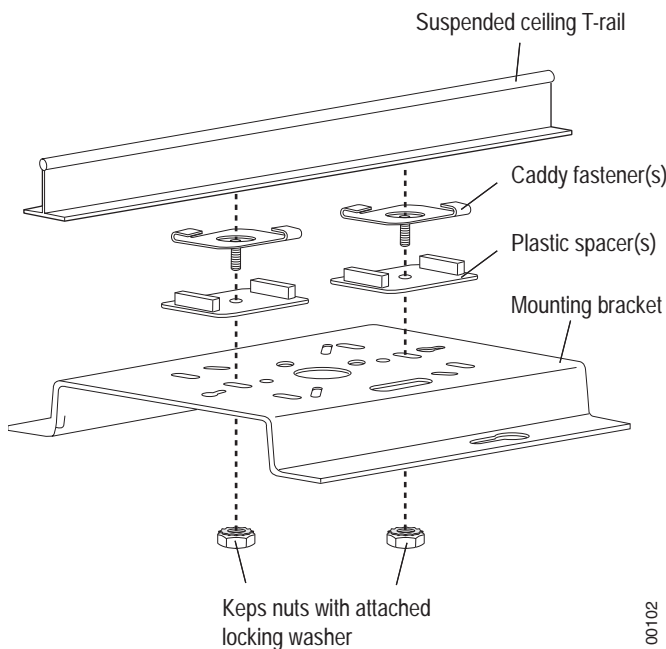

Figure 26: Mounting the AP200 to a Suspended Ceiling Rail
The optional suspended ceiling mounting kit allows the AP200 mounting bracket to attach to suspended ceiling T-rails (see Figure 26).
7. Adjust the height of the box hanger using the height adjusting screws (see Figure 26).